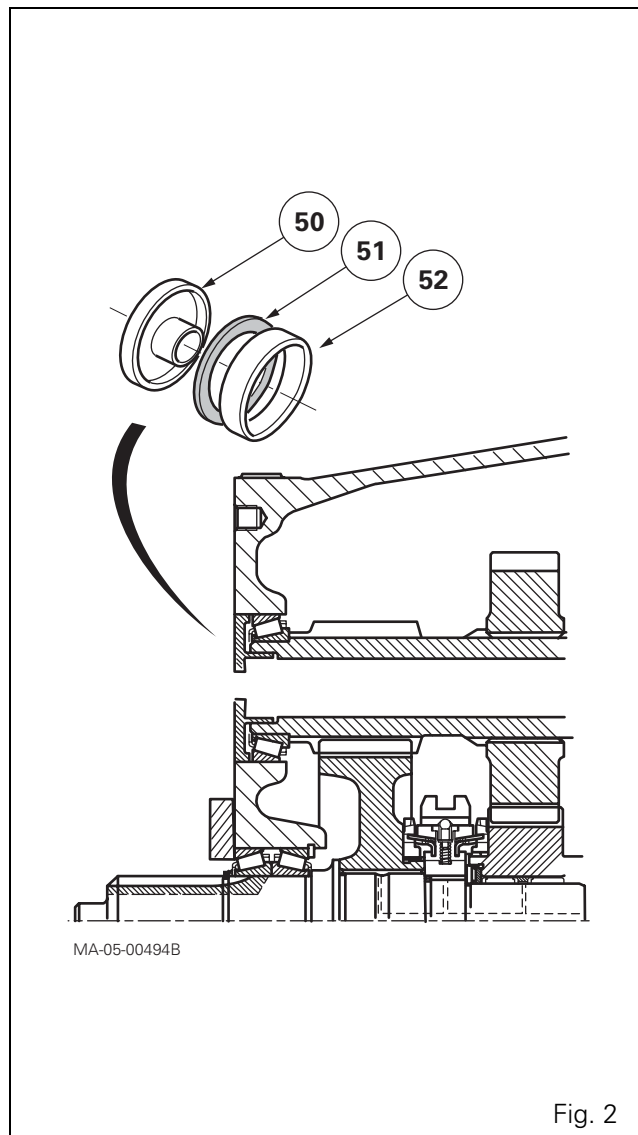

Fig. 2
6. Remove the oil deflector (50) using a slide hammer puller and remove the shims (51) and the cup (52) (Fig. 2) to release the rear end of the shaft.